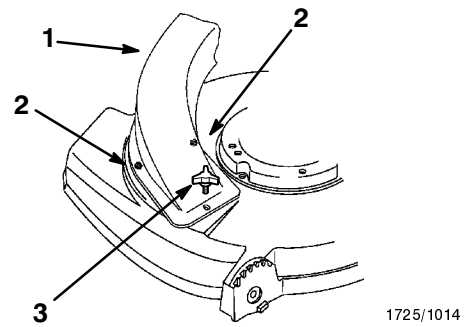

Figure 41
3. Place the chute assembly into the housing opening (Fig. 41).
6. Secure the chute assembly to the housing with a knob (Fig. 41).